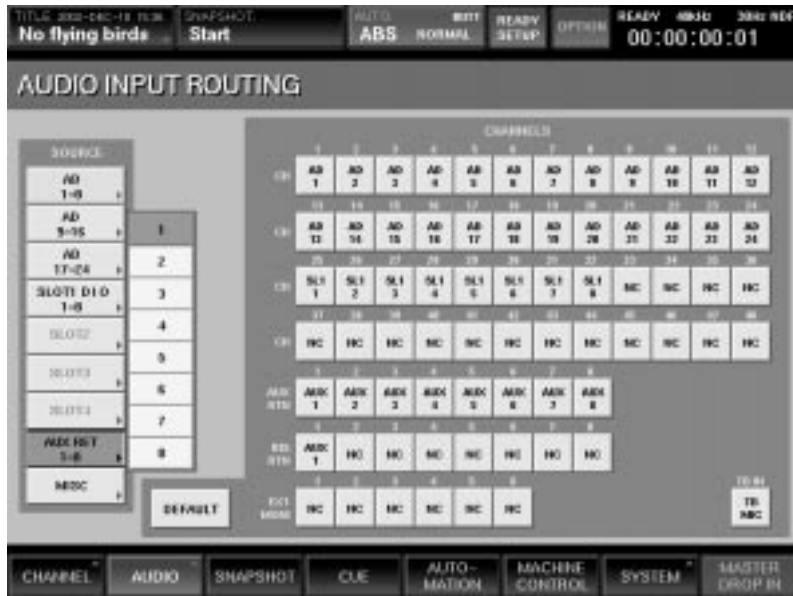

Figure 28
- 8 From the drop-down menu, press 1, then press the INS RTN 1 button in the Channels section (right-hand side of the screen). Aux 1 will be selected for Insert Return 1. (See Figure 28)